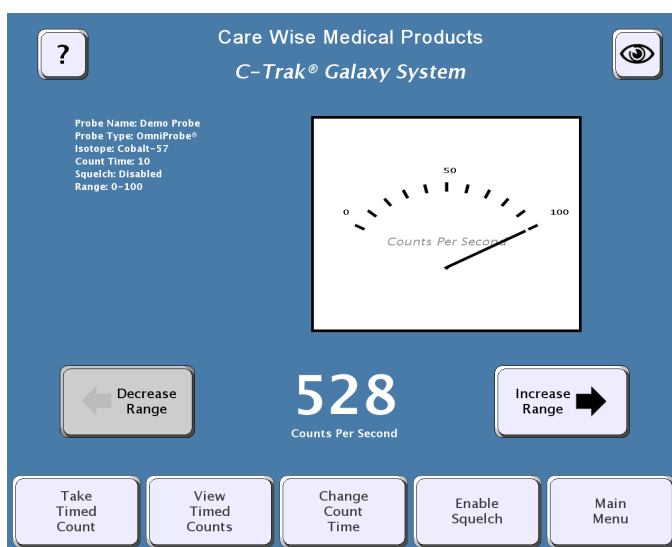

Figure 5 – Count Screen with Analog Meter
- There are three versions of the RATE METER DISPLAY. The default, shown in Figure 4, uses a wedge-shaped indicator to show the amount of radiation detected. The other two versions of the RATE METER DISPLAY are an analog indicator and a histogram of counts per second over time. These are shown in Figures 5 and 6 respectively.
- (2) **Counts per Second Display** – This numerical display indicates the number of photons detected by the gamma probe per second.
- (3) **Range Controllers** – The DECREASE RANGE and INCREASE RANGE controllers are used to adjust the range of counts per second displayed. Ranges of 0-100, 0-1,000, 0-10,000, and 0-100,000 are available.
- (4) **Take Timed Count Button** – Pressing this button begins a timed count for the current duration. While timed counts are underway, they are viewed on the TAKE TIMED COUNTS SCREEN. Details are in 2.4-2.
- (5) **View Timed Counts Button** – Pressing this button allows the user to view any data for timed counts already taken. Details are in 2.4-3.
- (6) **Change Count Time Button** – Pressing this button allows the user to change the duration of timed counts. Details are in 2.4-4.
- (7) **Enable Squelch and Disable Squelch** – Pressing "Enable Squelch" will activate the squelch feature. When squelch is active, this button displays "Disable Squelch" and pressing it will deactivate the squelch feature.